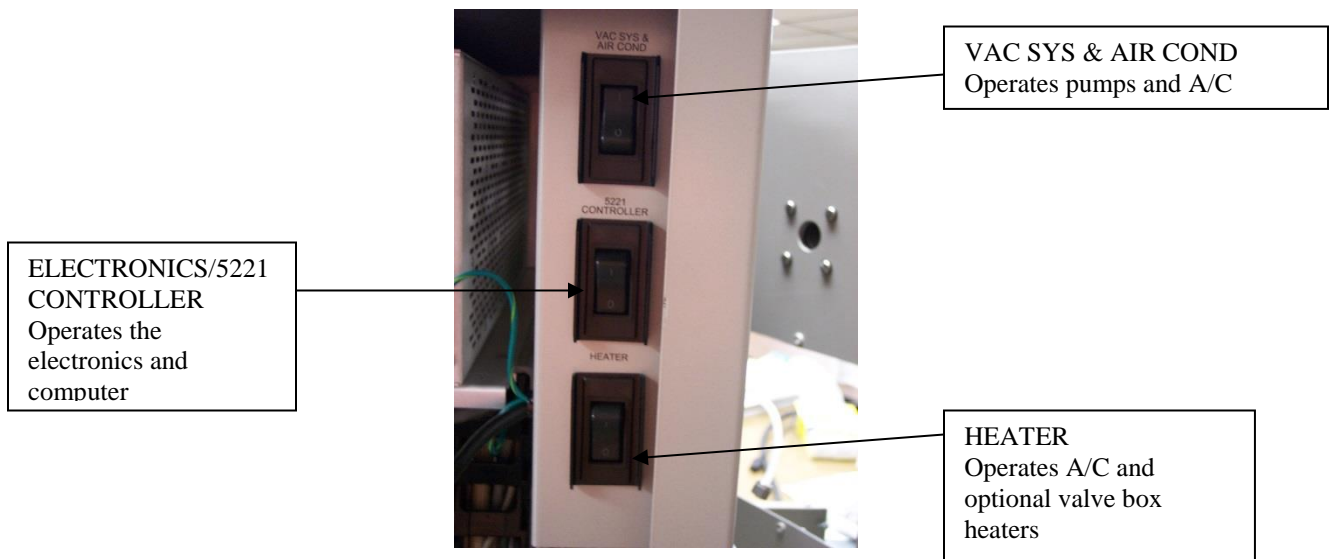

Figure 28: Enclosure Switches
Power inside the unit is controlled by three main power distribution switches located at the upper right of the enclosure (refer to Figure 28, page 51). The top switch controls the air conditioner, pumps and vacuum system, the middle switch controls the electronics, and the bottom switch controls the heaters. In normal operation, all switches will be left in the ON position when the door to the enclosure is closed. These switches also act as circuit breakers and can be reset by cycling from OFF to ON.
9. Turn off the pumps via the *Vac System & AC* switch visible in Figure 28 below
10. Turn off the *Heater* switch also visible in Figure 28